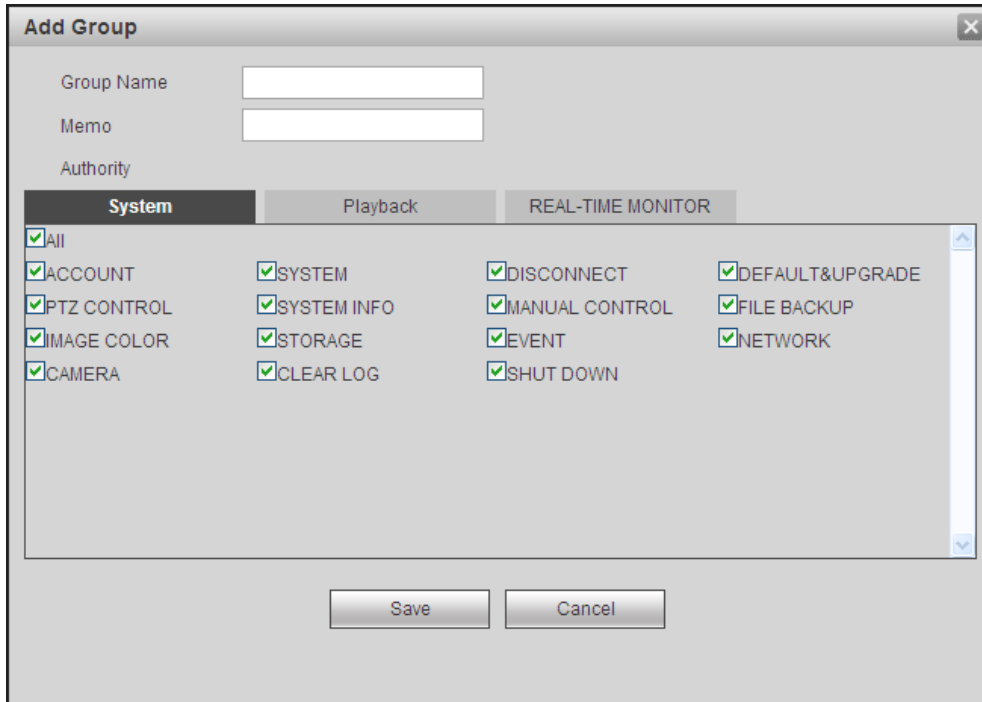

Figure 5-104
**Add group:** It is to add group and set its corresponding rights. See Figure 5-104.